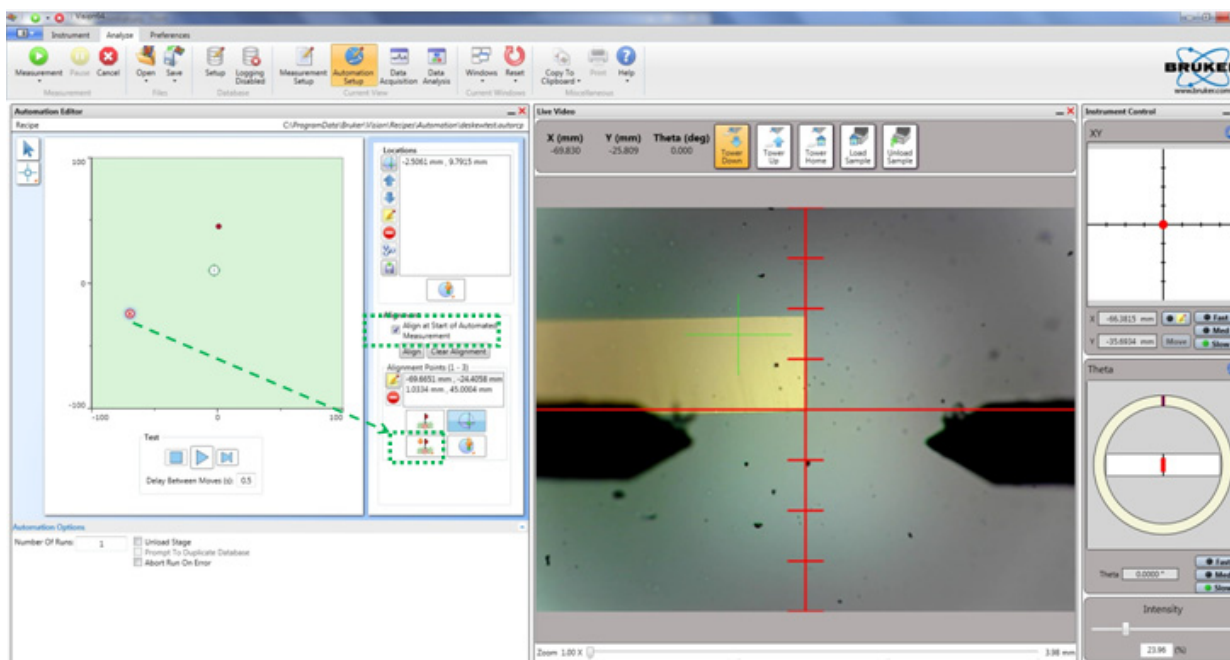

Figure 4-12: Setting the Deskew Reference Point
- b. In the Automation Editor, click **Set Reference Point**. A red circle enclosing an R now appears in that location (see Figure 4-12).